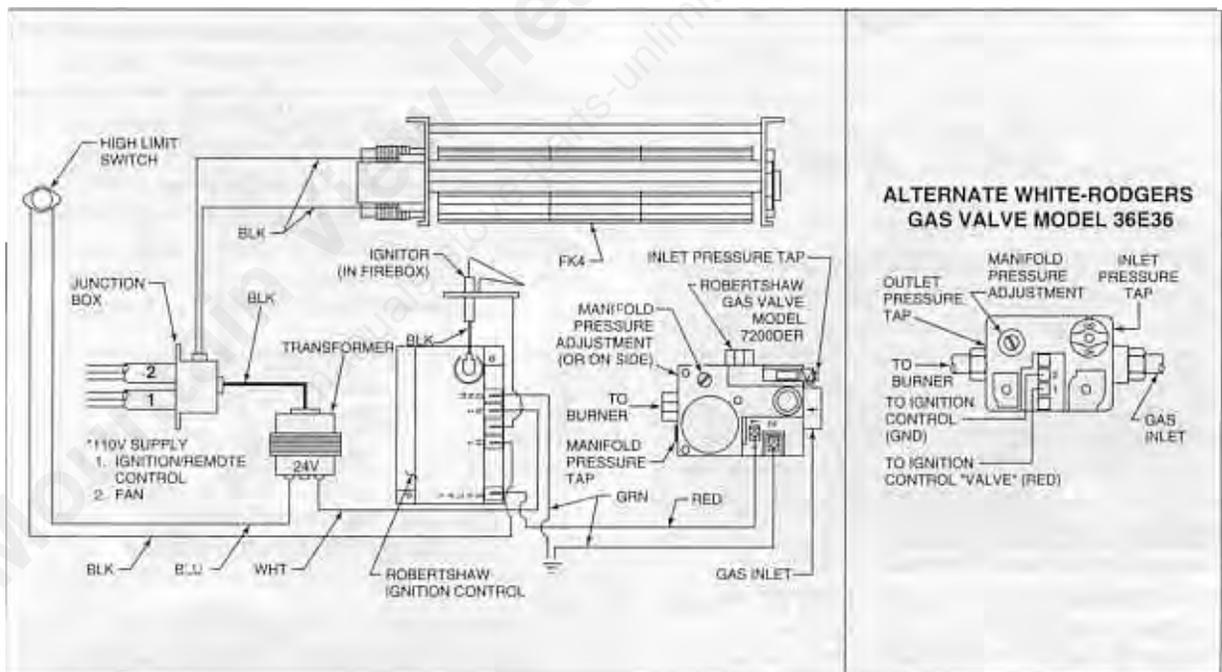

Figure 19
1. Appliance Requirements. This appliance requires a 110VAC supply from a remote wall switch to the appliance junction box for operation. A wiring diagram is shown in Figure 19.
3. Optional Accessories Requirements. Optional accessories may be added now or at a later date, however, wiring should be done now to avoid significant wall reconstruction. Two black wires are for the optional 110 volt switched fan. The optional fan kit (FK4) requires a separate 110VAC supply to the appliance junction box for operation, as shown in Figure 19, #2. In line with this junction box, you must have an on/off switch or a BC10. No additional 110VAC supply is required for the fan motor speed control (BC10) or the remote control (RC5). One black wire and the one white wire are for supplying 110 volt for ignition and for the optional 110 volt switched remote control. Wiring diagrams are provided with all accessories.